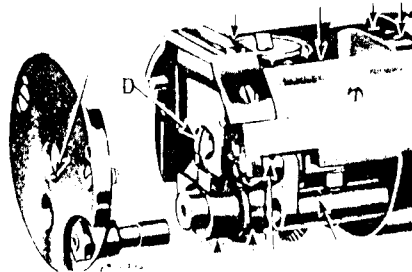
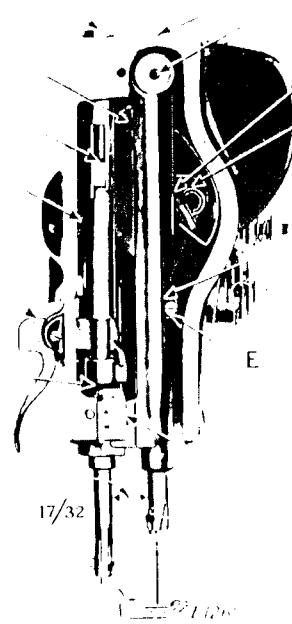

Fig. 4 Oiling Points and Adjustment in End of Cylinder
Fig. 5. Machine 153K102 and 154K101
Remove the cylinder end cover and apply oil to the places indicated in Fig. 4. Move the face plate aside and oil the wick and bearings shown in Fig. 5, then replace the face plate.
In case the needle bar is not correctly set, loosen the needle bar connecting stud pinch screw (E, Fig. 5) and place the needle bar in correct position as directed above, then retighten the screw (E).
The distance between the needle bar and presser bar, after turning the stitch regulator so that there is no feed movement, should be $\frac{17}{32}$ inch as shown in Fig. 5.